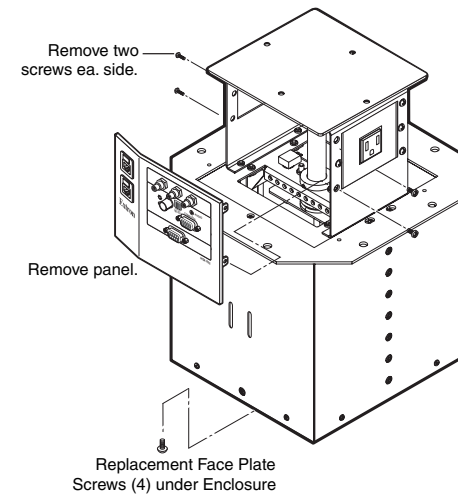

Figure 2-5 — Removing the AAP/RJ-45 panel
5. For both AAP/RJ-45 panels, remove the top and bottom screws on the right and left sides of the panel (figure 2-5). Retain the screws. Lift the panels away from the enclosure as far as the connected cables allow.